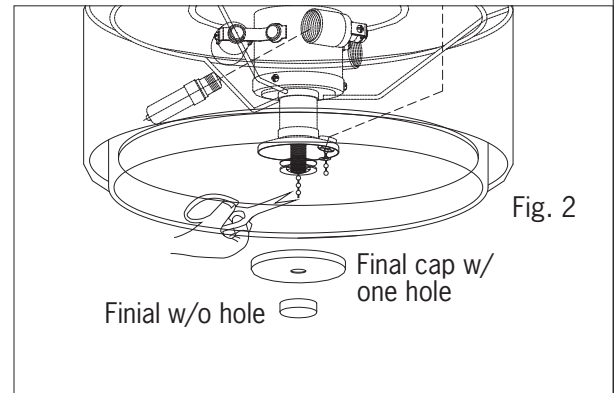

Fig. 2
**When using fan remote or wall controller**, make sure light is on with pull chain and fan is set at high speed then cut pull chain off. Cut off pull chains about 1 inch from bottom of threaded pipe or glass so that they will fit in final cap with one hole and finial without hole. Install the final cap and finial to fitter. (Fig.2)